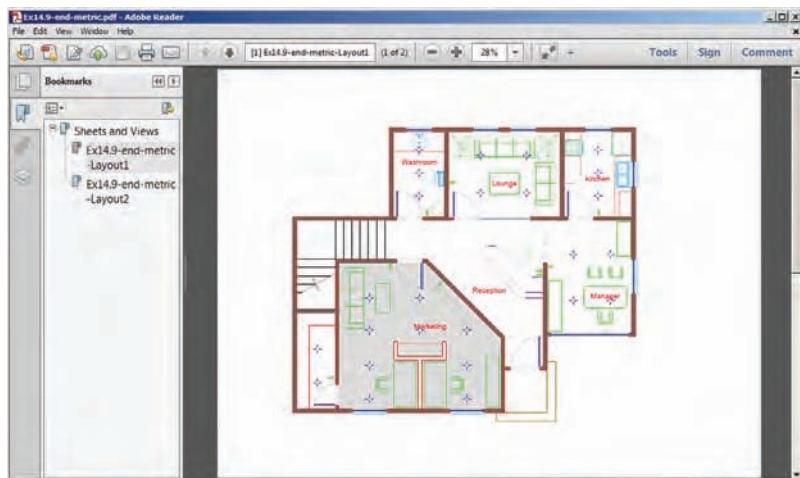

FIGURE 14.27 PDF with bookmarks displayed in Adobe Reader
4. Click Save. The program your computer has associated with PDFs opens (in most cases, this will be Adobe Reader). Note that both of the drawing's layer states, Furniture Plan and Reflected Ceiling Plan, automatically appear as bookmarks in Adobe Reader (see Figure 14.27), but these are labeled with the filename and the words *Layout1* and *Layout 2* are appended.